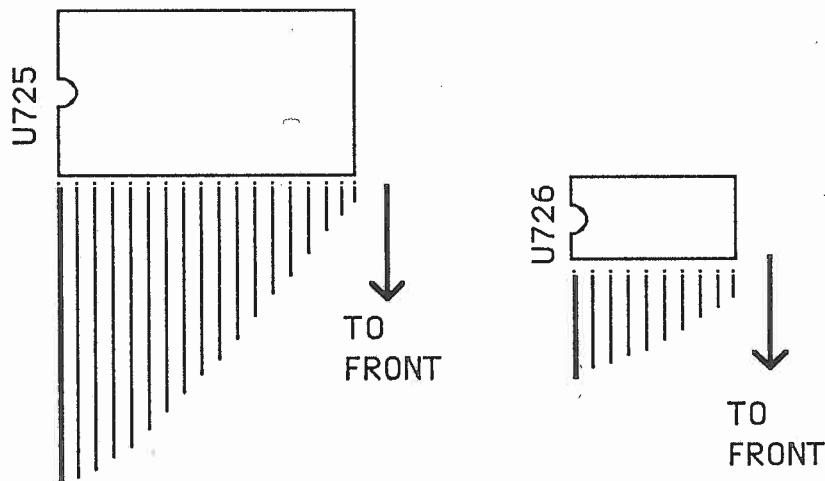

figure10
18. Insert the free end of Cable #6 into location U725 on the DX Processor board making sure pin 1 of the cable is lined up with pin 1 of the socket. When inserted correctly, the ribbon cable will be coming out the side of the socket that is nearest to the front of the chassis. See **figure 10**.
20. Insert the free end of Cable #5 into location U726 on the DX Processor board making sure pin 1 of the cable is lined up with pin 1 of the socket. When inserted correctly, the ribbon cable will be coming out the side of the socket that is nearest to the front of the chassis. See **figure 10** above.